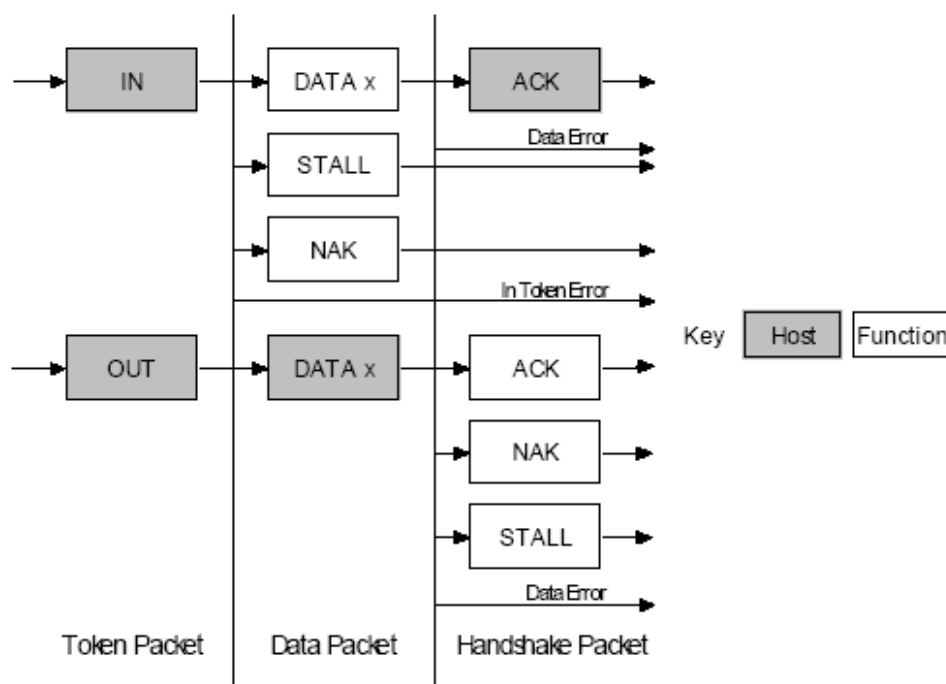

Figure 6-24: Data Stage
The optional **Data Stage (Figure 6-24)** consists of one or multiple IN or OUT transfers. The setup request indicates the amount of data to be transmitted in this stage. If it exceeds the maximum packet size, data will be sent in multiple transfers each being the maximum packet length except for the last packet. The data stage has two different scenarios depending upon the direction of data transfer.
• **IN (Figure 6-24):** If the host sent IN token(s) during the data stage to receive data, then the host must acknowledge the successful receipt of this data. This is done by the host sending an OUT token followed by a zero length data packet. The function can now report its status in the handshaking stage. An ACK indicates the function has completed the command is now ready to accept another command. If an error occurred during the processing of this command, then the function will issue a STALL. However if the function is still processing, it returns a NAK indicating to the host to repeat the status stage later.